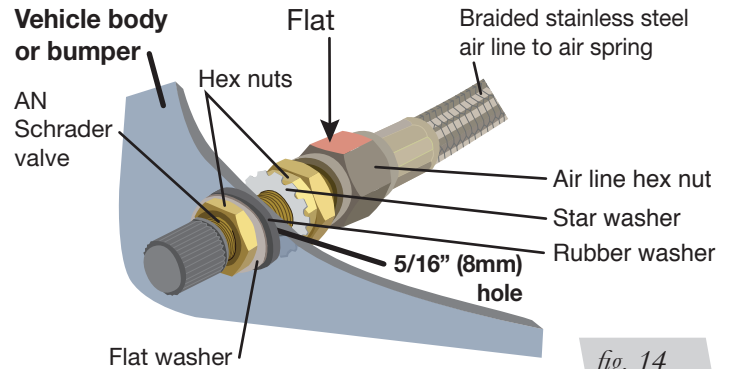

fig. 14
2. Tighten the air line hex nut finger tight, then use 2 wrenches to turn 1 additional flat (1/6 of one full turn). **Do not overtighten** (Figs. 14 or 15). The easiest way to tighten the fitting is off the vehicle. Install the Schrader valve in the chosen location.